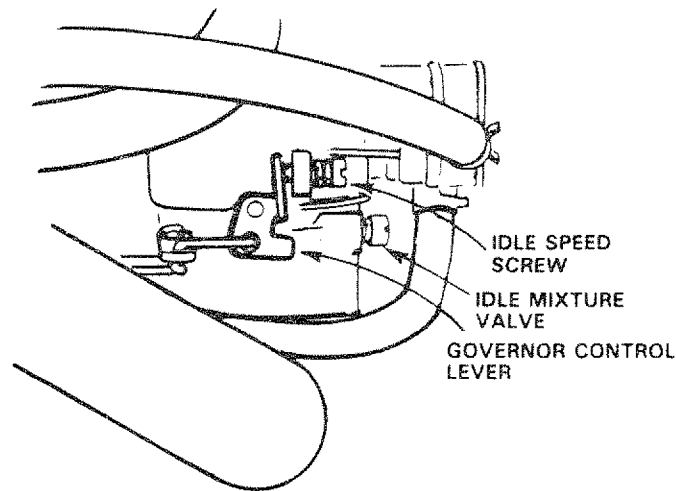

FIGURE 31
- Hold governor control lever against idle speed screw, and adjust idle speed screw to obtain 1200 to 1400 RPM (Fig. 31).